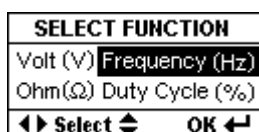
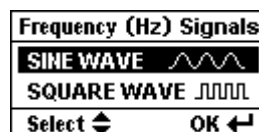
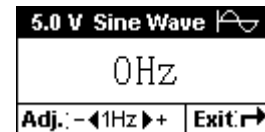
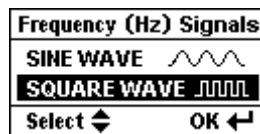

Fig.16
Fig.17
Fig.18
Fig.19
- While on the menu display screen (Fig.5 above) select [Frequency (Hz)] as Fig. 16 below by pressing \blacktriangleright key once and then press OK \blacktriangleleft key will enter into the Frequency simulation selection menu (Fig.17) below. Here the highlighted display is on Sine Wave icon. Press OK \blacktriangleleft key again will enter into Sine wave simulation mode (Fig. 18 below).
- To access into this simulation mode, while on the display (Fig. 17 above), press ▼ key will move the highlighted bar to Square Wave icon (Fig. 19 below).